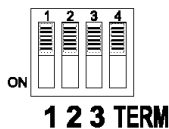

Figure 1: Dipswitch Setup on a Single Machine
By default, the **VP-1608** is setup for use as a single machine. This means that it is a 16x8 RGBHV / Balanced Audio Matrix (in audio-follow-video mode), with all setups empty and each input connected to its corresponding output (for example, input 1 to output 1). The dipswitches are set up for a typical application using a single machine (see Figure 1):
- The MACHINE # dipswitches to MACHINE # 1, according to Table 4, that is, set all OFF. See the example illustrated in Figure 1